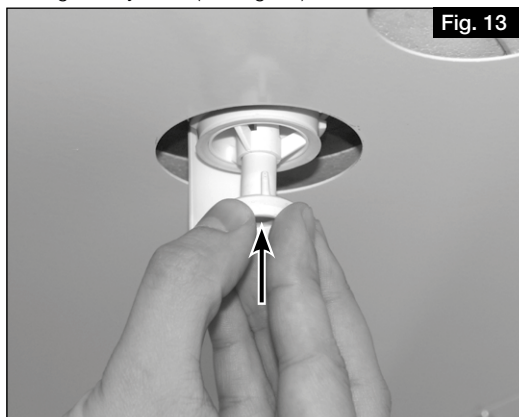

Fig. 13
3. Insert locking part and insert up to stop (see Fig. 13).